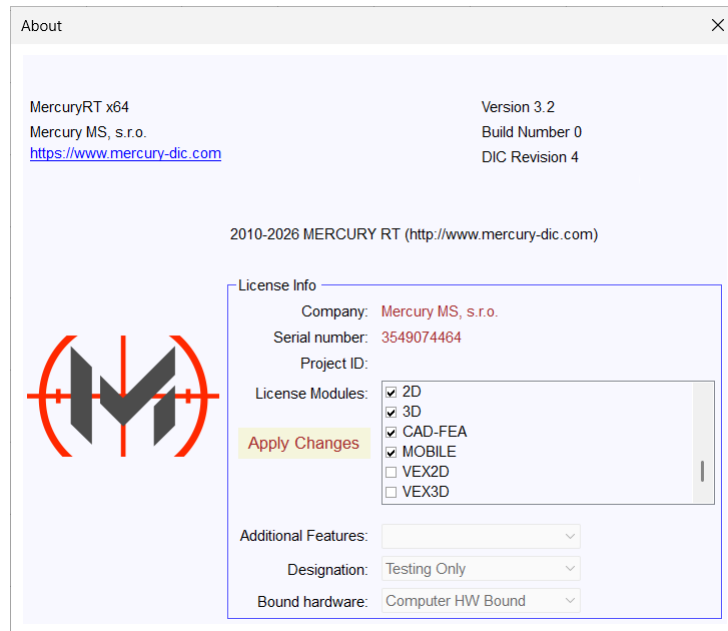

Figure 2: About Window
- **About** – The About dialogue is shown in Figure 2 and displays the information about the version of the software and the active license.